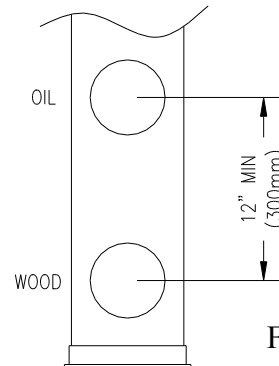

FIG. 3
- The wood furnace chimney connection must be below that of oil furnace, a minimum of 12 inches center to center between them.. (See Fig. 3)